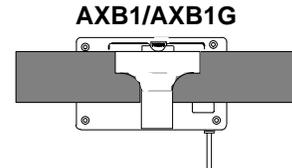

FIGURE 6. TRANSMITTER SETUP
- Attach the transmitter to your belt, guitar strap, or waistband as shown in Figure 6. Depress the tab marked PRESS and slip the belt or strap between the transmitter body and the belt clip. For added stability, draw the strap or belt toward the clip's top wire, especially when using thin guitar straps.